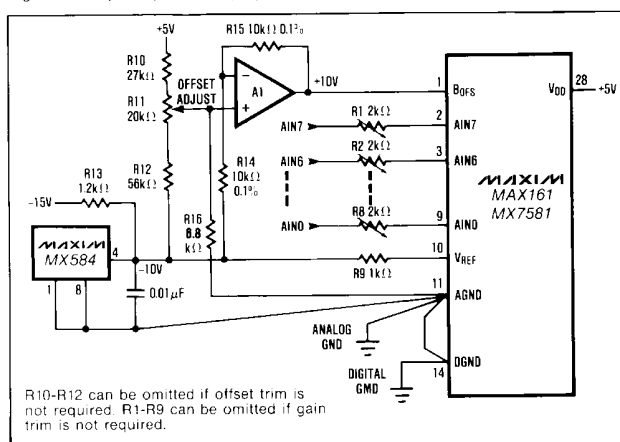

Figure 7. Unipolar (0 to -10V) Operation
**Note 4.** BOFFS/BAIN mismatch causes transfer function rotation about positive full scale. The effect is an offset and a gain term when using the circuits of Figure 7 and 9.
Figures 7 and 8 show the analog circuit connections and typical transfer characteristic for unipolar (0 to -10V input) complementary binary operation. Calibration is as follows: